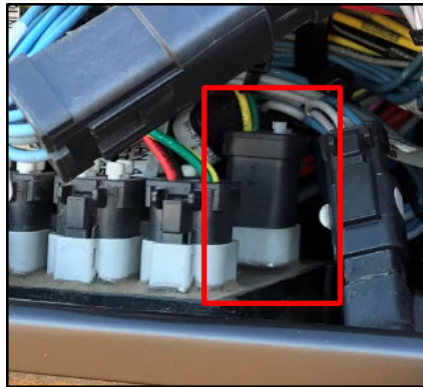

Figure 16: Cable C31 CAN Connection
8. **Cable C31:** Connect the 6-pin connector on cable C31 as described in the display option manual. Connect the ring terminals on cable C31 to power. Connect the 4-pin Deutsch connector to the connector shown in Figure 16.